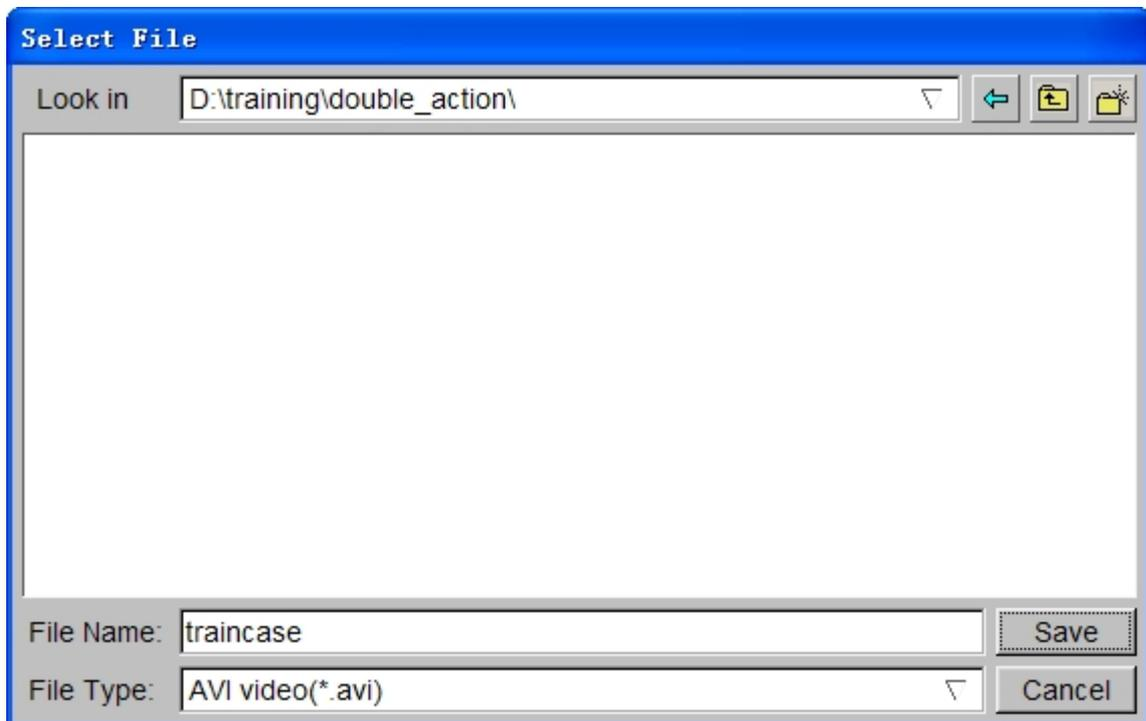

Figure 2.55 Save AVI file
5. Enter a name of the **AVI** movie file (e.g. traincase.avi) at the input data field of File Name illustrated in Figure 2.55